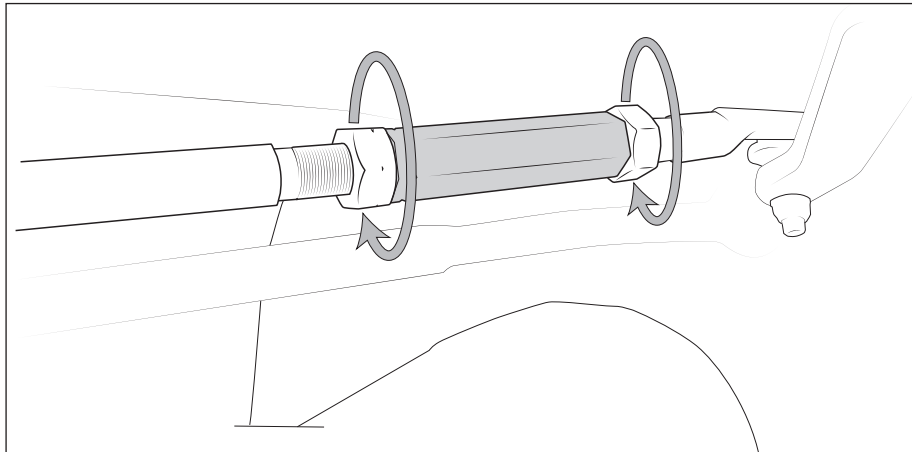

Figure 1
- d. Thread adjuster sleeve out until separated from drag link (fig. 1).